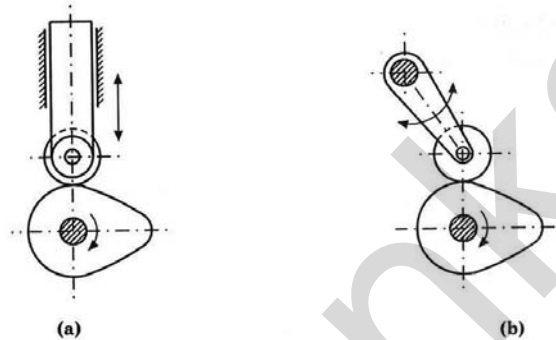

Fig : 2
1. **Reciprocating Follower** : Fig. 2(a) shows a reciprocating follower, in which the cam rotates and the follower reciprocates or translates in the guides.
2. **Oscillating Follower** : Fig. 2(b) shows a oscillating follower, in which the cam rotates and the follower oscillates about a suitable pivot on the frame.